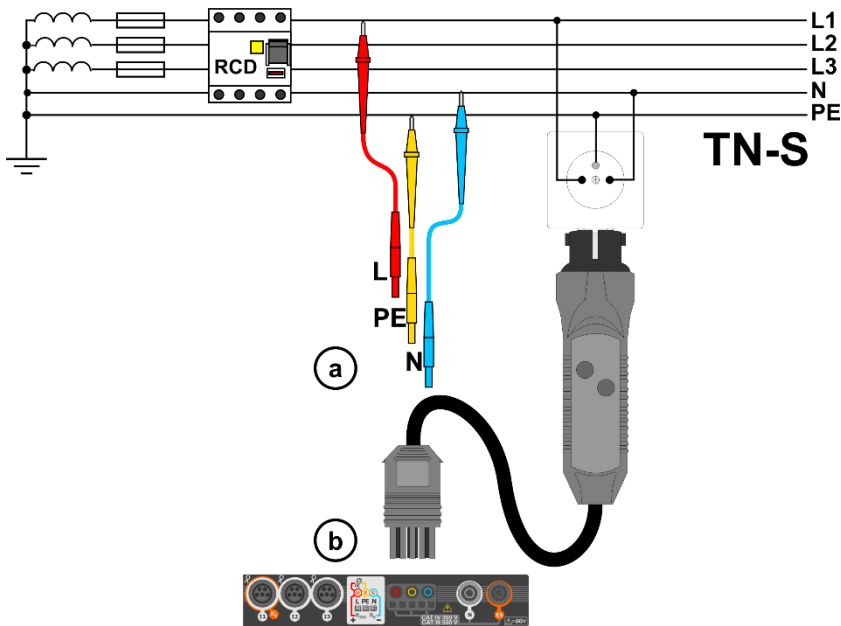

Fig. 3.3 Measurement in the TN-S system
- 1 Connect test leads according to Fig. 3.3 , Fig. 3.4 or Fig. 3.5.